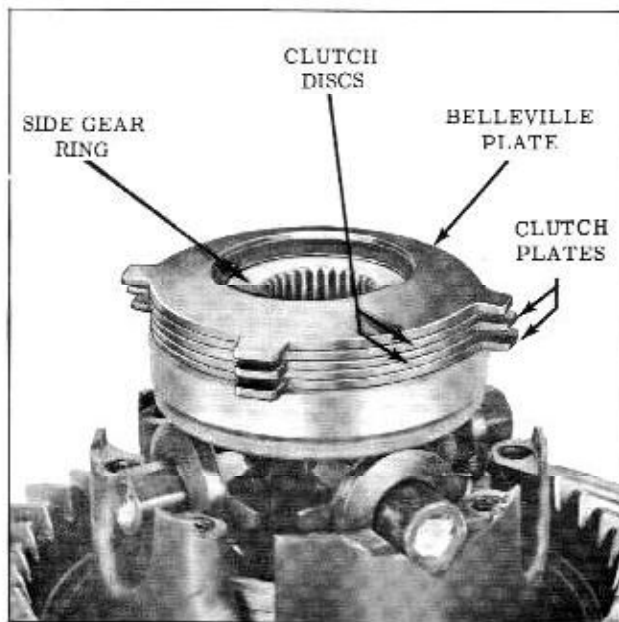

Fig. 6-45 Clutch Plate Installation
12. Place side gear ring onto side gear. Oil clutch plates and discs with Special Lubricant (Part No. 531536) as they are alternately installed on side gear ring, starting with a clutch plate and finishing with the Belleville plate. Belleville plate must be installed with the dished side facing the clutch disc. (Fig. 6-45)